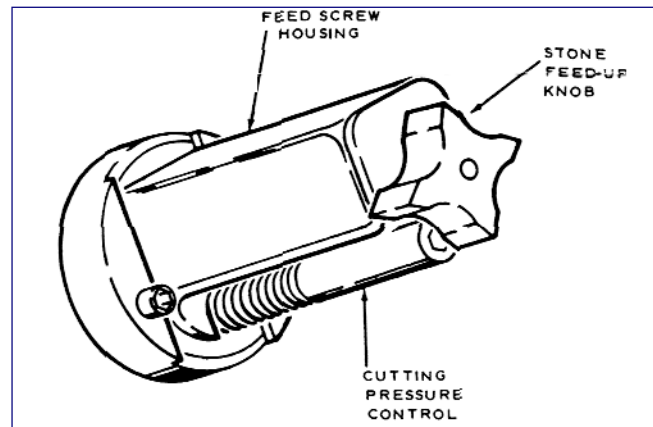

FIGURE 4, Stone Feed-Up Knob
NOTE: If Wedge sticks out too far, retract it by turning Stone Feed-Up Knob counterclockwise (see Figure 4).
5. To increase pressure, turn Cutting Pressure Control clockwise (refer to Figure 4). Too much pressure results in excessive stone wear. Too little pressure will allow stone to glaze and cease cutting, and cause mandrel to lose stability, resulting in loss of accuracy.